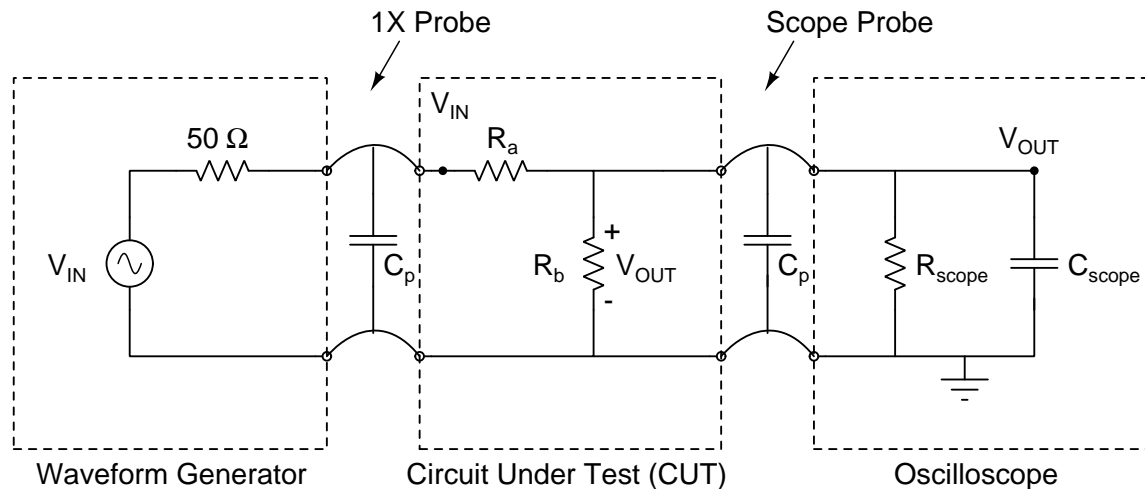

Figure 2: Measurement set-up for the resistor divider circuit.
This lab illustrates that the actual values of the components, and the impedances associated with the test equipment and cables, must be considered when determining the actual value of the voltage across a circuit element. All voltage sources, including batteries and waveform generators, have a finite source impedance. All measurement equipment, including oscilloscopes and digital volt meters (DVMs), have a finite input impedance that presents a load to the circuit. Cables that connect the circuit to the test equipment introduce additional impedances in the circuit. The schematic of the circuit under test (CUT) when connected to a waveform generator (WG) and oscilloscope (scope) is shown in Figure 2.
1. Use NGSpice to simulate the expected output voltage  $V_{OUT}$  as a function of the resistance  $R$ , when the value of  $R$  is varied from 10  $\Omega$  to 10 M $\Omega$ . Simulate the circuit of **Figure 2**. Include the capacitance of each probe, the output resistance of the WG, and the input impedance of the scope. A Matlab® file is available at: ([https://davidkotecki.com/ECE214/docs/Matlab/ECE214\\_2021\\_Lab1.m](https://davidkotecki.com/ECE214/docs/Matlab/ECE214_2021_Lab1.m)).
2. Plot the simulated results from Post-Lab **item 1** on a semi-log graph with the x-axis (resistance value) as the logarithmic scale. On the same graph, plot the three measured values of  $V_{OUT}$  from **Table 2**.